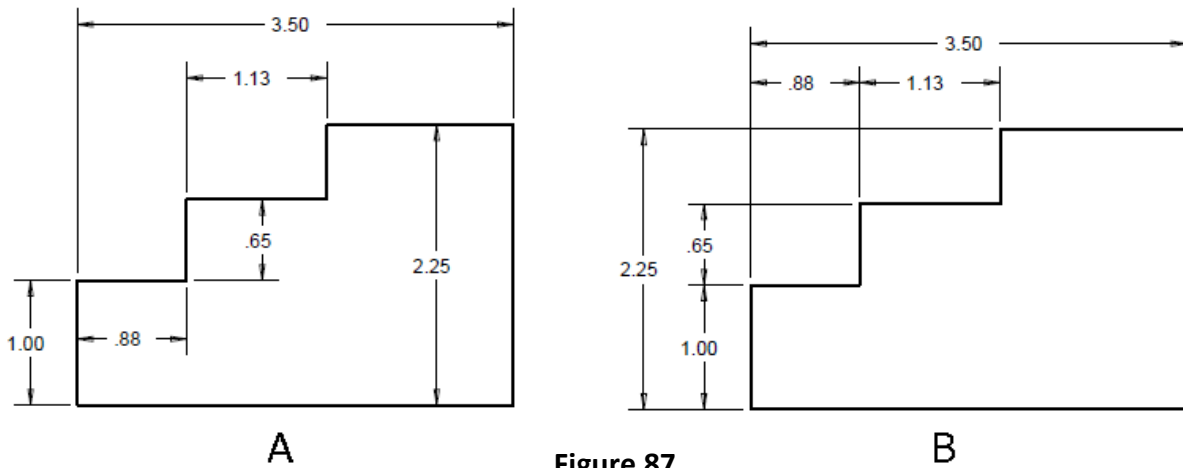

Figure 87
In Figure 87 we have two identical views dimensioned using the same dimensions. Notice while view (A) gives all the same information, view (B) is more organized and easier to interpret.